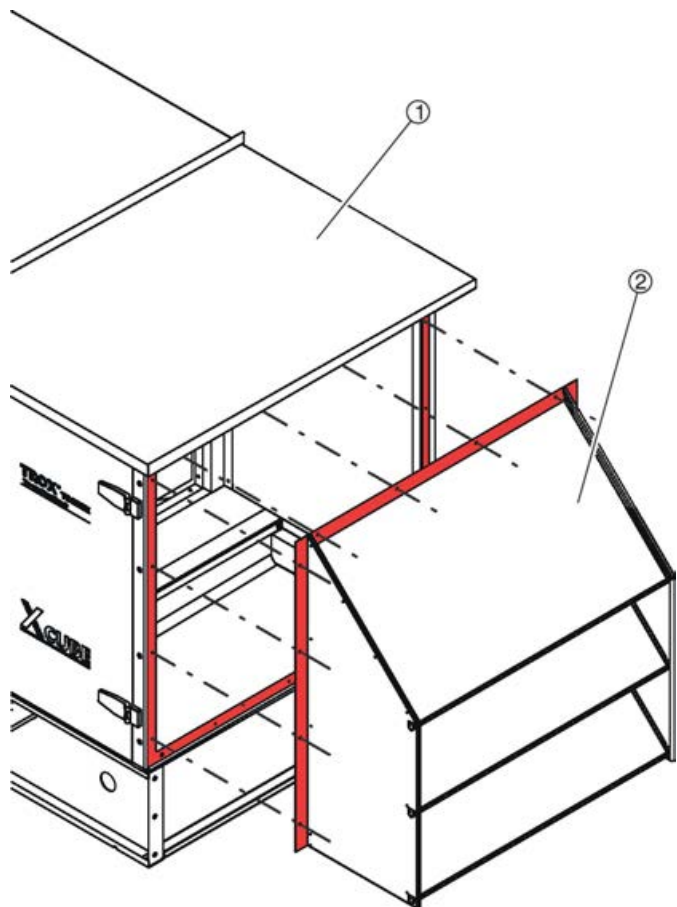

Fig. 24: Positioning the weather hood
- 1 ▶ Position the weather hood (Fig. 24 /2) precisely on the frame (Fig. 24 /1) such that the screw holes are in a line.